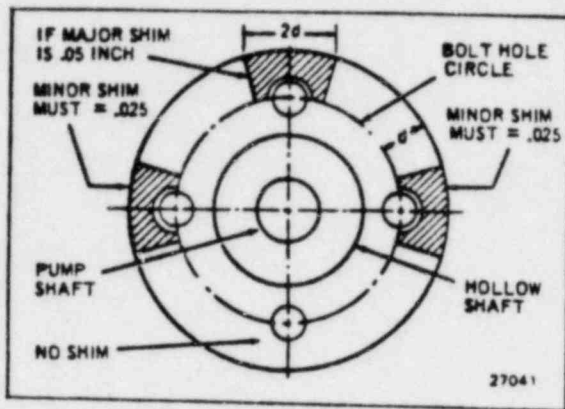

Figure 2-3 - Shimming flange face.
Small excess misalignment may be corrected by inserting shims between flange faces. Such shims may also compensate for flanges being out of plane. (Fig. 2-3)
5. Shim flange faces if necessary (Fig 2-3)
To avoid the possibility of twisting the flange when shimming between the flanges, minor shims should be one-half the thickness of the major shim. Shims should not penetrate deeper than the bolt hole circle and not be wider than twice the penetration distance. (Fig. 2-3)